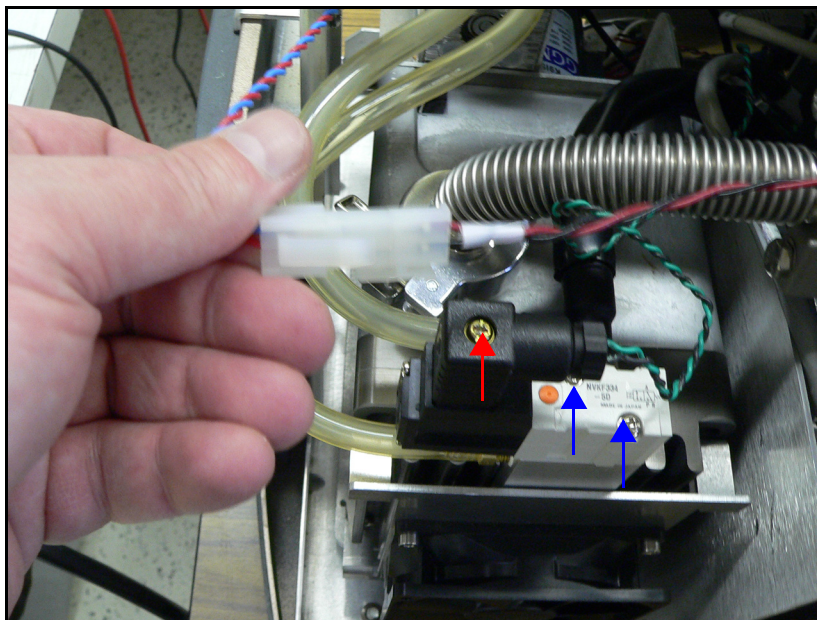

Figure 10: Unit Screws
4. Unscrew the black cover using the Philips head screw, pull up the cover and disconnect (red arrow in Figure 10: Unit Screws)
5. Unscrew the two Philips head screws (blue arrow in “Figure 10: Unit Screws” on page 11) and pull the complete black/grey body up and out.